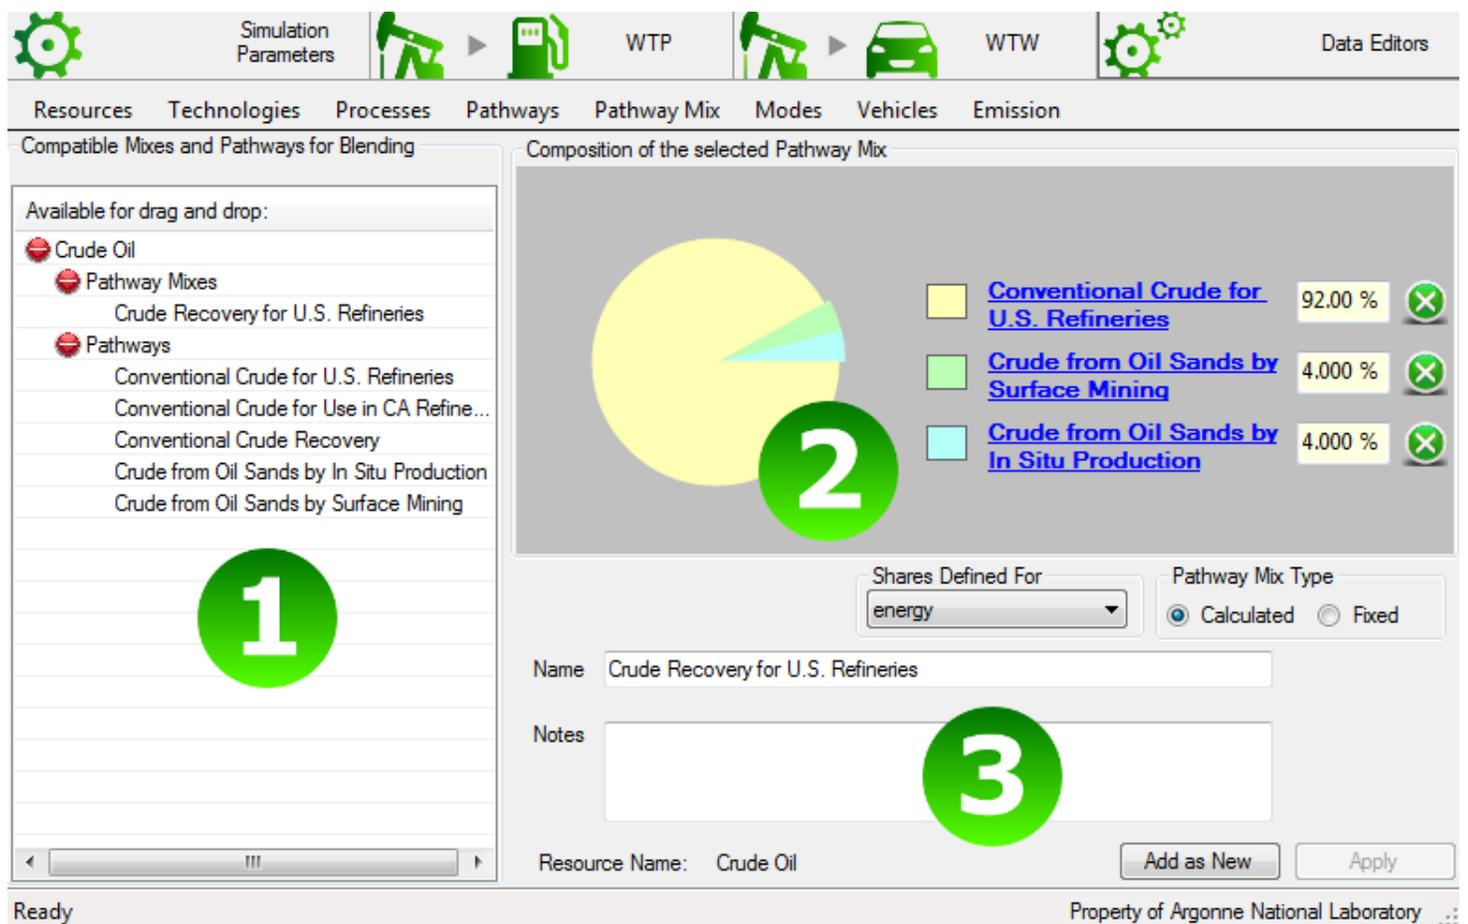

Figure 68: pathway mix Showing the Crude Recovery for U.S. Refineries
The pathway mix allows you to define how multiple pathways are used together to form the source for a product. See Figure 68. There are, for example, multiple ways of obtaining crude oil, and the Crude Recovery for U.S. Refineries defines which pathways are used on average in the United States.
**Create/Modify a calculated pathway mix:** A calculated pathway mix represent an upstream defined by a weighted average of multiple pathways. The figure 68 represents such a pathway mix as seen in the editor.